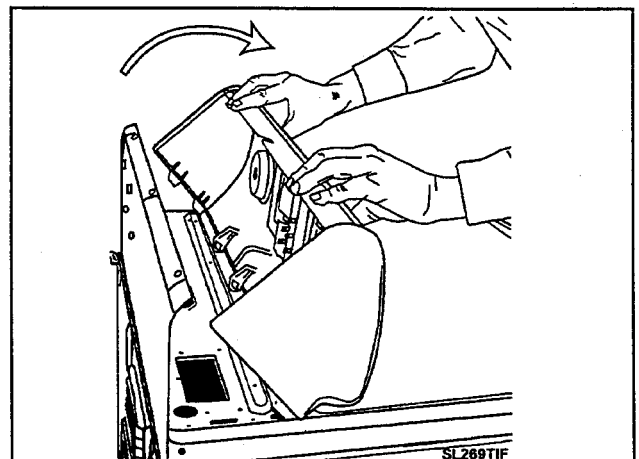

Figure 4-4
6. Carefully lift and roll the console forward onto the top cover. You now have access to the console components and wiring (*Figure 4-4*).